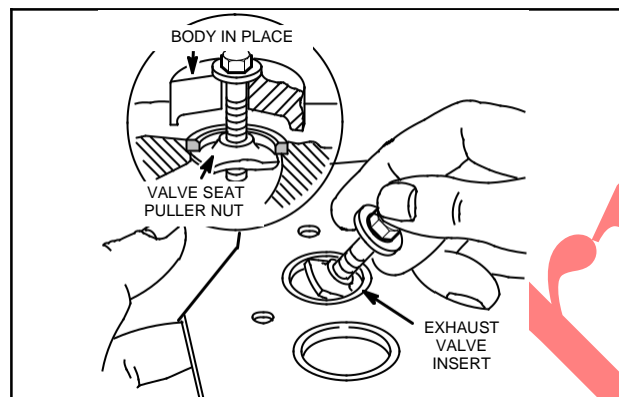

Fig. 25 – Installing Valve Seat Puller
1. Use valve seat puller, Tool #19138, Fig. 25, to remove valve seat insert.